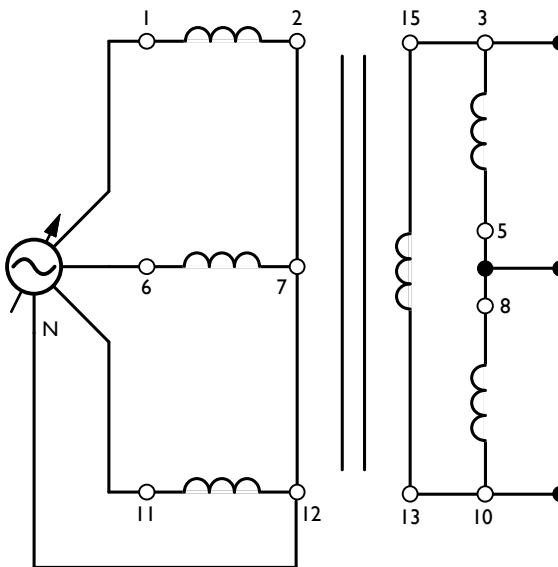

Figure 2.6: Three-Phase Transformer Connected in Wye-Delta
29. With the power off, connect the Three-phase Transformer module in the **Y** -  $\Delta$  configuration shown in Figure 2.6. Connect E1, E2, and E3 to measure the line voltages at the primary,  $E_{1-6}$ ,  $E_{11-1}$ , and  $E_{6-11}$ .